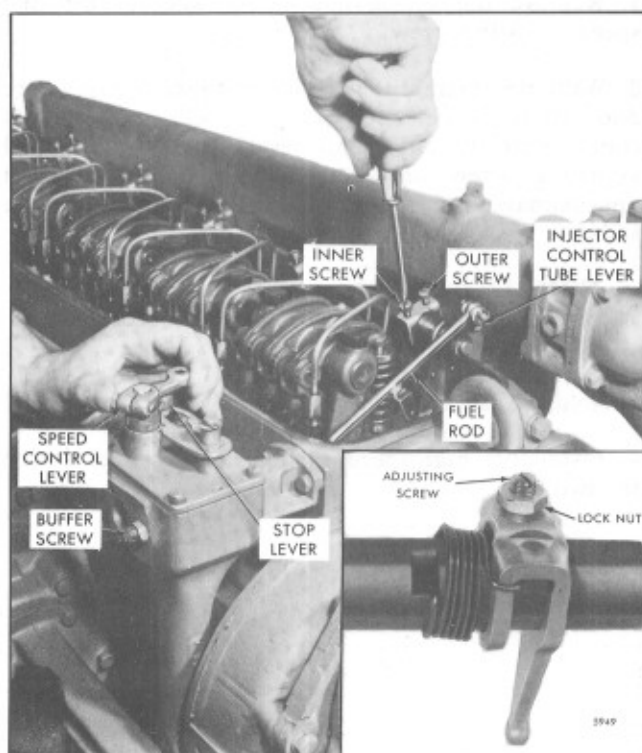

Fig. 2 - Positioning No. 1 Injector Rack Control Lever
2. Back out the buffer screw until it extends approximately $5/8$ " from the lock nut (Fig. 2).
Adjust the No. 1 injector rack control lever (Fig. 2) first to establish a guide for adjusting the remaining injector rack control levers.